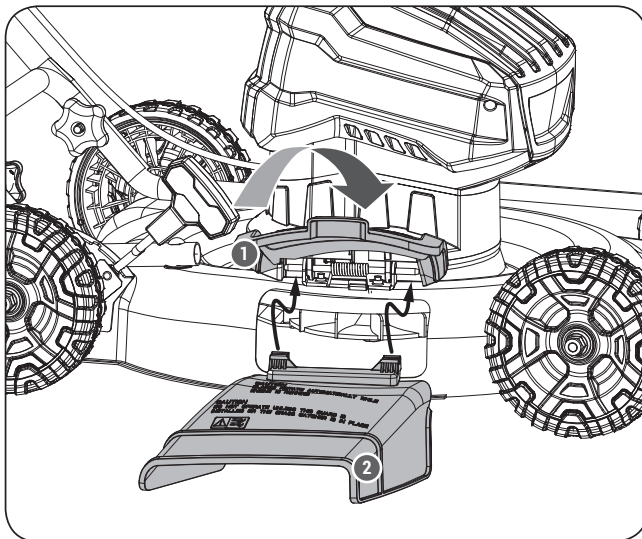

Figure 3
1. Lift the mulch cover on the side of the mower. (See **Figure 3, illustration 1**)
2. Slide the two hooks of the side discharge cover under hinge pin on mulch cover assembly. Lower the mulch cover. (See **Figure 3, illustration 2**)